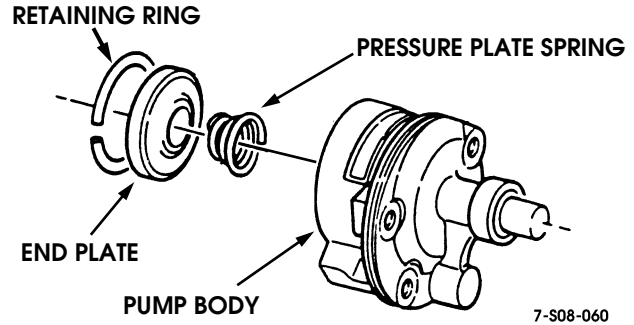

Figure 8-75: End Plate Removal
12. Remove retaining ring from pump body (Figure 8-75).